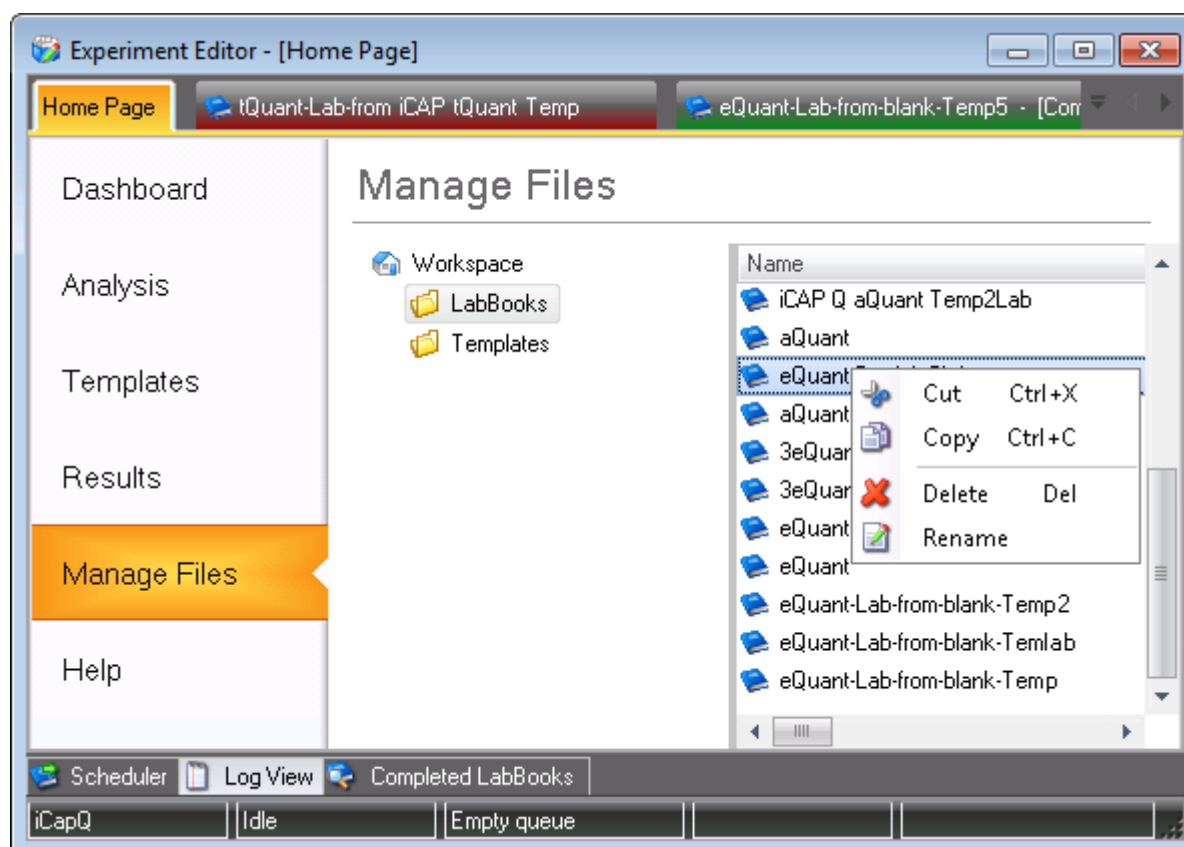

Figure 5-40. Context menu of file
4. Right-click on the file you wish to rename, see Figure 5-40.